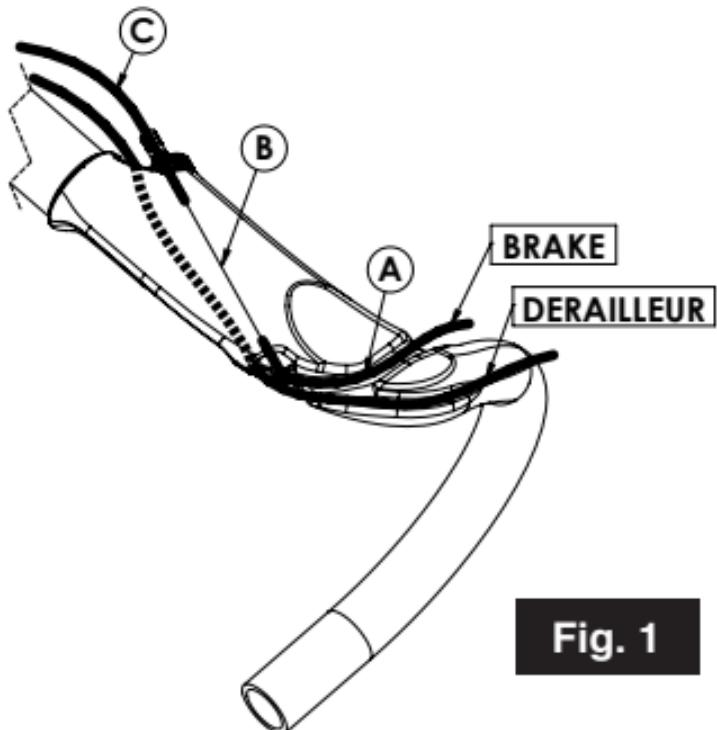
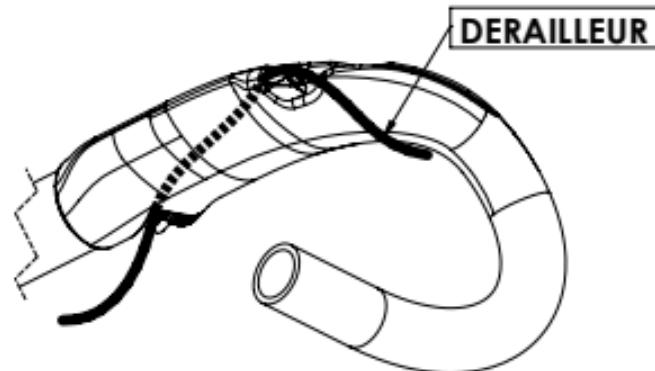

Fig. 1
Fig. 2
## BRAKE ROUTING (Fig.1)
## **ROUTING DERAILLEURS (Figs. 1 & 2)**
Depending on the handle model, the derailleur casing must pass either through the outer groove of the handlebar (Fig. 1) or under the handlebar (Fig. 2).
**Electrical unit :** The route is the same. Thread the wire into the outer groove of the handlebar (Fig. 1) and fix it with sticky tape.